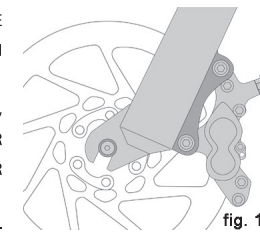
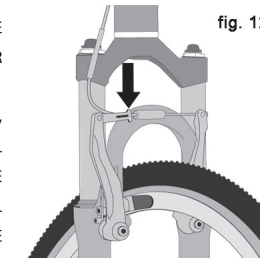

fig. 11
fig. 12
- (2) If your bike has rim brakes, disengage the brake's quick-release mechanism to increase the clearance between the wheel rim and the brake pads (see Section 4.C, figs. 11 through 15).
- (3) On a derailleur gear system, pull the derailleur body back with your right hand.
- (1) If your bike has rim brakes, disengage the brake’s quick-release mechanism to open the clearance between the tire and the brake pads (see Section 4.C, figs. 11 through 15).
- (2) Using a correct size wrench, loosen the two axle nuts.
- (3) If your front fork has a clip-on type secondary retention device, disengage it and go to the next step. If your front fork has an integral secondary retention device, loosen the axle nuts enough to allow wheel removal; then go to the next step.
- (4) Raise the front wheel a few inches off the ground and tap the top of the wheel with the palm of your hand to knock the wheel out of the fork ends.
- (2) Shift the rear derailleur to high gear (the smallest rear sprocket) and pull the derailleur body back with your right hand.
- (3) Using the correct size wrench, loosen the two axle nuts.
- (4) Lift the rear wheel off the ground a few inches and, with the derailleur still pulled back, push the wheel forward and down until it comes out of the rear dropouts.
3. SOME BICYCLE BRAKES, SUCH AS DISC BRAKES (FIG. 11) AND LINEAR-PULL BRAKES (FIG. 12), ARE EXTREMELY POWERFUL. TAKE EXTRA CARE IN BECOMING FAMILIAR WITH THESE BRAKES AND EXERCISE PARTICULAR CARE WHEN USING THEM.
Most brakes have some form of quick-release mechanism to allow the brake pads to clear the tire when a wheel is removed or reinstalled. When the brake quick release is in the open position, the brakes are inoperative. Ask your dealer to make sure that you understand the way the brake quick release works on your bike (see figs. 11 through 15) and check each time to make sure both brakes work correctly before you get on the bike.